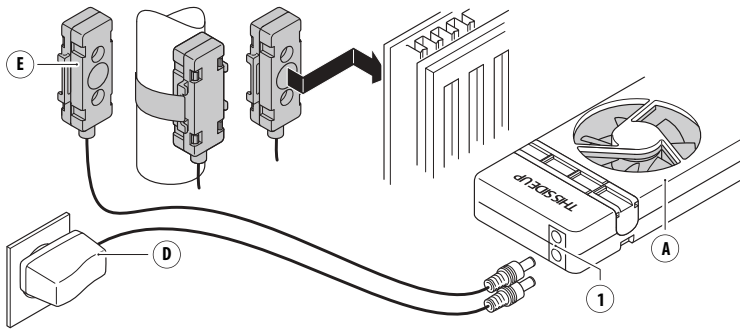

Fig. 3 - Connect the power adapter (D) and temperature sensor (E).
3. Connect the **temperature sensor cable** (E) to one of the **SpeedComfort** (A) **female connectors** (1).
4. Attach the **temperature sensor** (E) with its adjustable magnets (B) on the back of the radiator, close to the warm water supply pipe, or on the pipe itself (see fig. 3). Adjust the magnetic sliders to the correct width.
5. Connect the **power adapter** (D) to the remaining **female connector** (1) and the wall socket (see fig. 3).